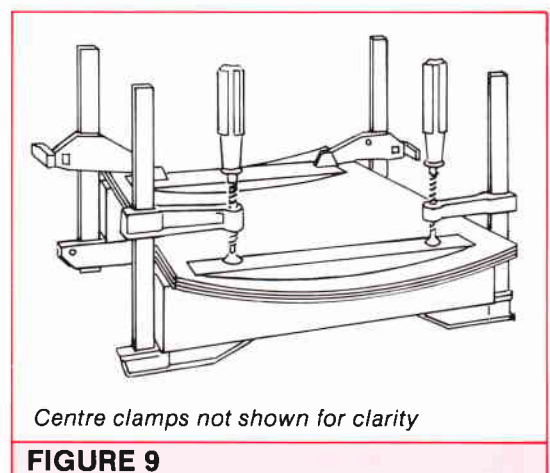

FIGURE 9
**2** Liberally spread glue between the plywood panels required for the laminations, and clamp down securely as shown in Figure 9. Clamp the edges of the panels as well; the more clamps the better. Don't remove from your clamping jig until the glue is well set.